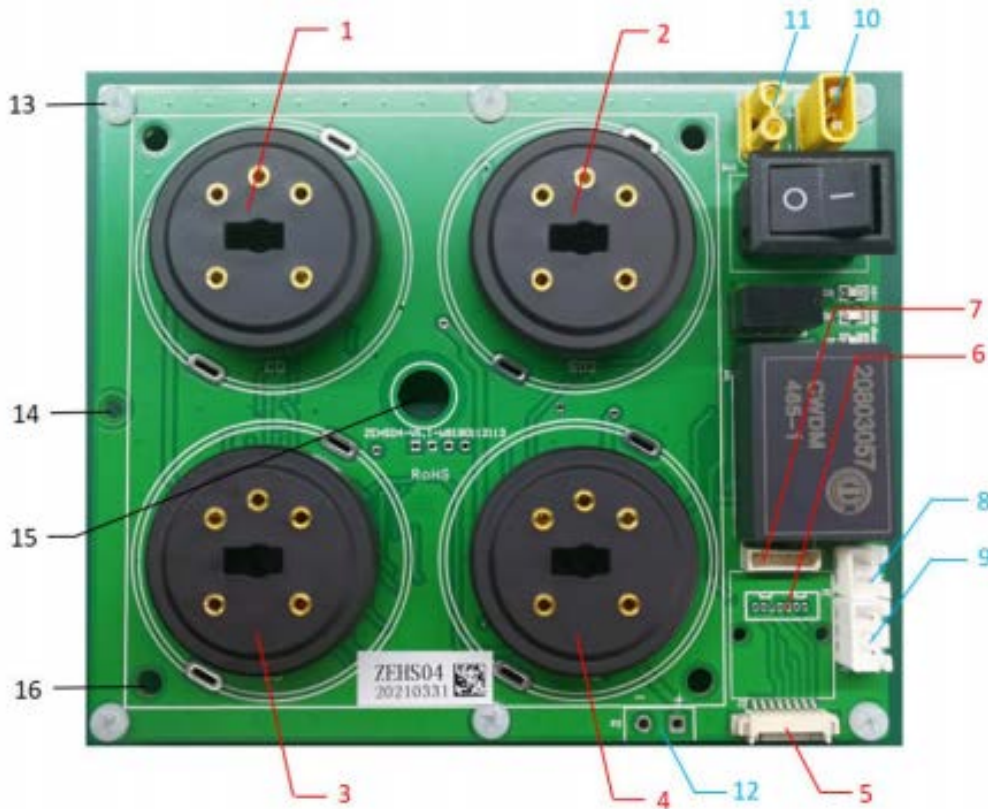

Figure 1
2. The module is equipped with 6 with a diameter of 3mm fixing holes, 1 with a diameter of 3mm spare fixing holes, and 1 with a diameter of 8mm spare fixing holes, which can be fixed through part of the fixing holes Fixed to the shell (fixed with metal or plastic screws and nuts), the position of module fixing holes is shown in Figure 1.
3. If it's pumping type,the module has four fixing holes with a diameter of 4mm air hood, which can be fixed through the fixing holes (plastic screws and nuts are recommended for fixing),the fixed hole position of the gas hood is shown in figure 1, and a hole above 3mm should be cut on the shell to facilitate the suction of the air pipe on the gas path.